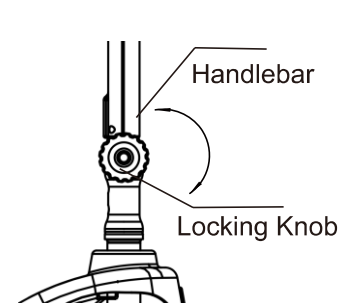

fig.6
1. Loosen the locking knob (Figure 6).